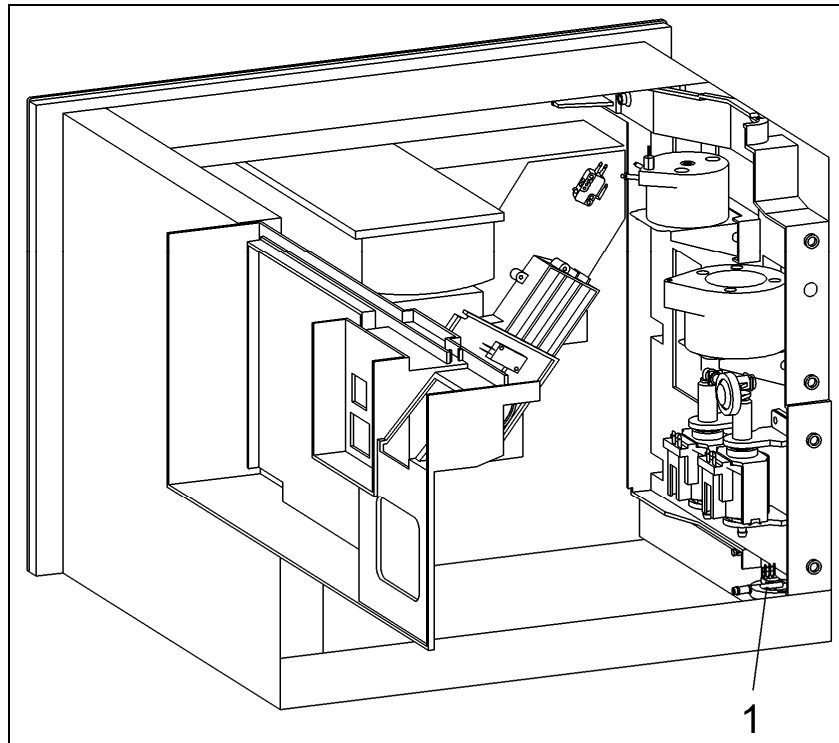

Figure 5-30: Flow Meter Location
7. Take off the lower rear wall. The flow meter is shown at Figure 5-30, Item 1.